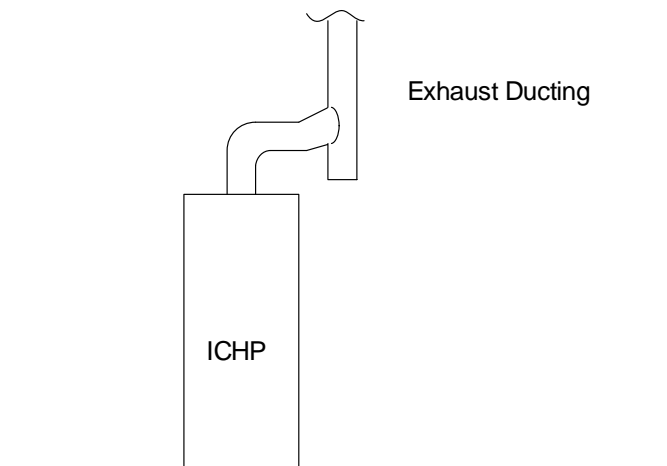

Figure 7 – Exhaust Ducting with Offset for Condensation
1. Backpressure – Exhaust ducting must be pressure rated, and properly sealed to avoid buildup of toxic exhaust fumes. The C60 ICHP system's MicroTurbine will provide positive exhaust flow under normal operation. However, the exhaust system must limit backpressure to no more than 5 inches of water column under all operating conditions. Nominal exhaust flow rate at full power is 425 l/s or 900 standard cubic feet per minute (scfm). This is roughly 1,700 cfm when adjusted for temperature. The exhaust outlet of the C60 ICHP system is 10-inch diameter. Guidance for backpressure calculations is available from ducting manufacturers. If the system design includes a backflow damper (ref item 5 below), use 0.7 inches of water column as the estimated forward pressure drop across the damper.
3. Condensation – While the exhaust system needs to be capable of the maximum temperature noted above, normal heat recovery operation reduces the exhaust temperature considerably. Therefore, the potential for condensation of moisture in the exhaust must be considered in any ducting system. For short runs to direct exhaust outside (for example through a single story roof or to elevate slightly the point of exhaust in an outdoor installation), and when the ICHP system is not switched on and off frequently, it may not necessary to make any accommodation for condensation. However for any other application, it is suggested that the exhaust ducting include means to capture any condensation and direct it away from the top of the ICHP system exhaust. Figure 7 shows a typical exhaust arrangement using an offset with drain.
4. Weight – The C60 Integrated CHP System can accept a maximum load on the 10-inch exhaust outlet of 25 lbs. When designing any exhaust ducting arrangement, suitable supporting means must be included to avoid damage to the heat exchanger structure of the C60 ICHP. Using an offset, as shown in Figure 7, is one way to avoid high loading.